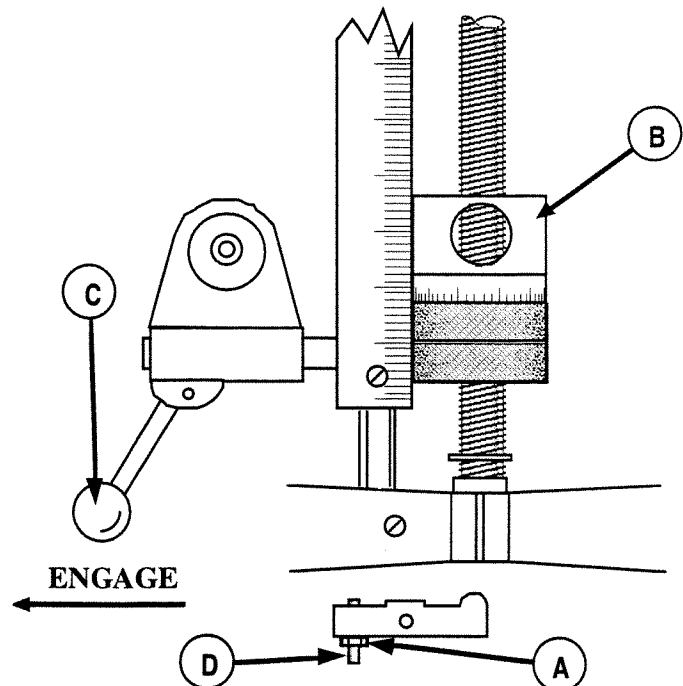

Figure 9-7. Feed Trip Adjustment
9.7 FEED TRIP ADJUSTMENT (Figure 9-7)